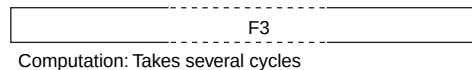

**Figure 8.1 Basic Pipelines**
Figure 8.1 shows the basic pipelines. Normally, a pipeline consists of five or six stages: instruction fetch (I), decode and register read (D), execution (EX/SX/F0/F1/F2/F3), data access (NA/MA), and write-back (S/FS). An instruction is executed as a combination of basic pipelines. Figure 8.2 shows the instruction execution patterns.